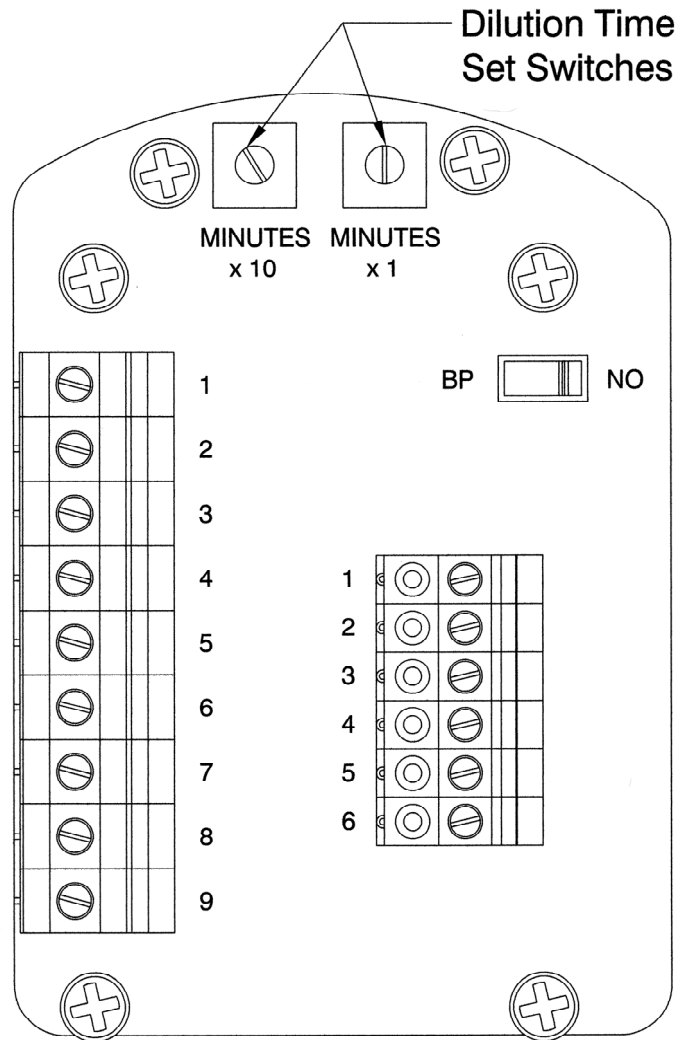

Figure 2
With Automatic Leakage Compensation Purge Gas Inlet Kit solenoid valve wires connected to terminal blocks in TRYCLOPS X – Purge Controller, XP Version set automatic dilution time cycle to ensure that at least five (5) times the volume of free space in the electronics enclosure is exchanged before power is automatically applied to the electrical equipment. Refer to Figure 2 for location and details of dilution time switches.